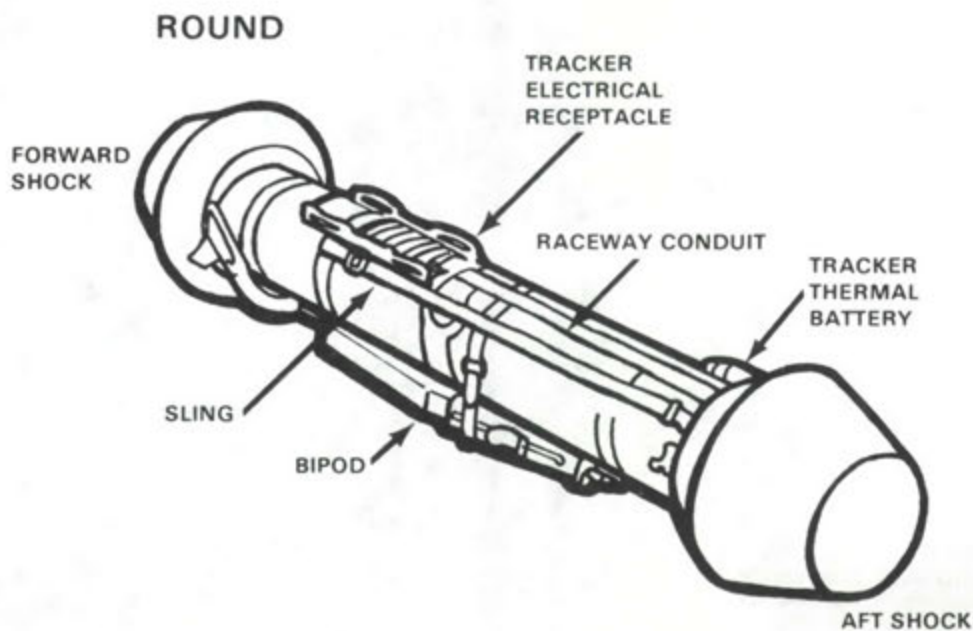

Figure 1.
1. **Preoperational Inspection of a Round of Ammunition** (figure 1).